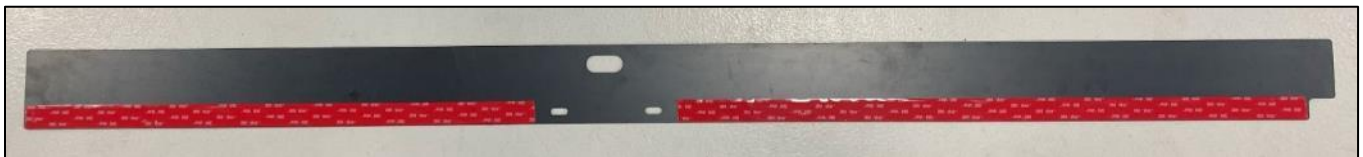

Figure 22
47. Locate the Tailgate Finisher and peel the Double-Sided Tape on the Back. *Figure 22.*